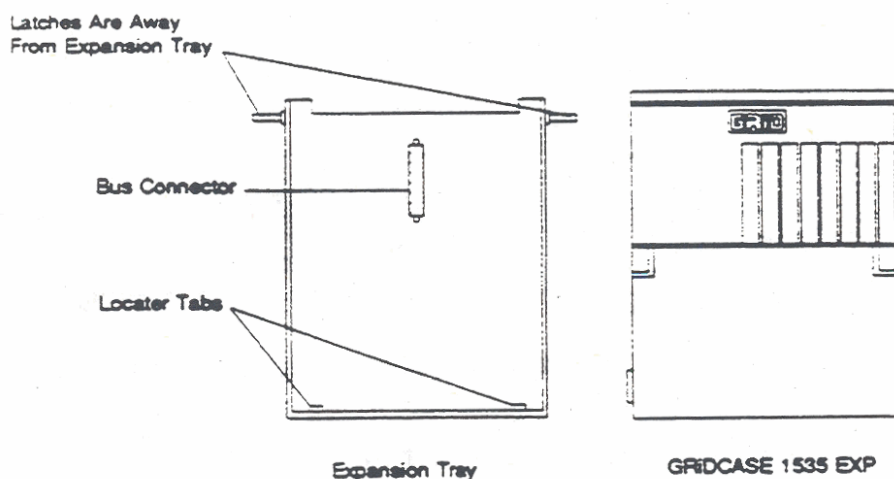

Figure 7-7. Preparing to Attach the Expansion Tray to the Computer
2. Position the tray so that the end of the tray with latches faces away from you and the end with locator tabs faces towards you (see Figure 7-7). Push the top of the latches away from the tray so that they are hanging outward.